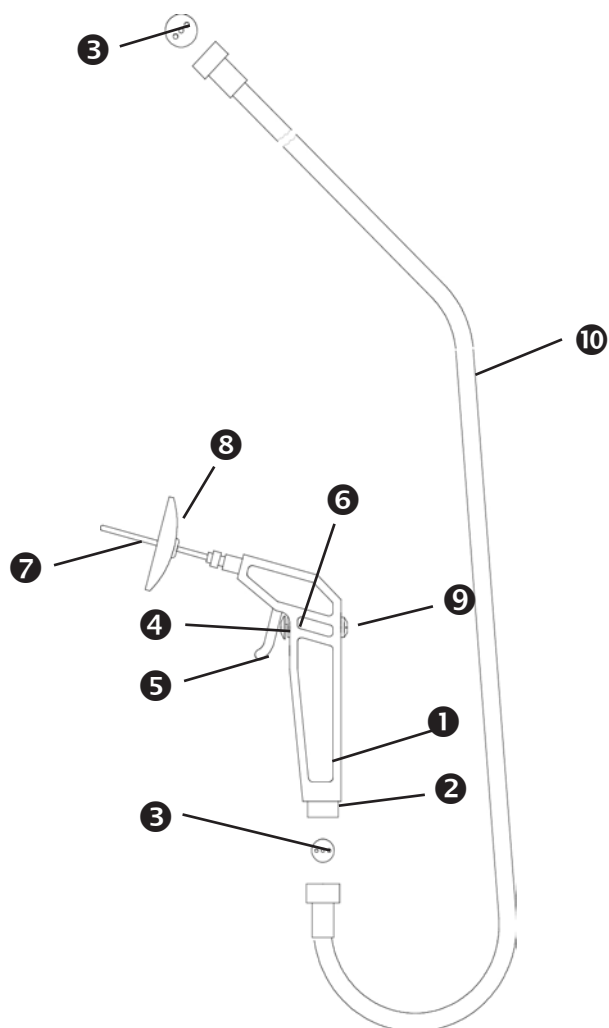

Fig. 4. Irrigation handle
- Insert a "three-holes gasket" (⑩, fig. 4) in the double-barrelled hose and screw it (⑨, fig. 4) on the unit connection (⑧, fig. 3).
- Water flow: at least 400 ml/min, after turning open the limit screw at the release lever of the handle (⑤, fig. 4).